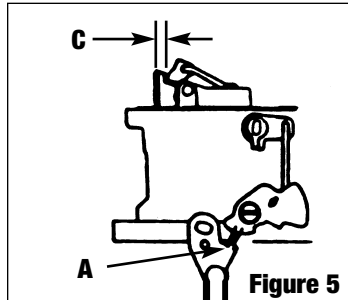

Figure 5
• **TRINGLERIE DE RALENTI ACCÉLÉRÉ (FIG. 5)**